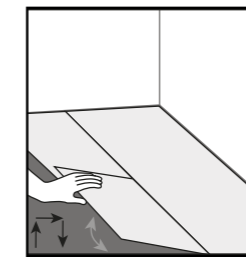

Fig. 3
4. Start the second row by clicking the tongue into the groove holding the plank at an angle (approximately 30°), then tap the plank firmly into the groove of the first row. Fit the next plank by easing the tongue and groove together on the longside. The end joint can then be tapped into position with the next plank (Fig. 3).